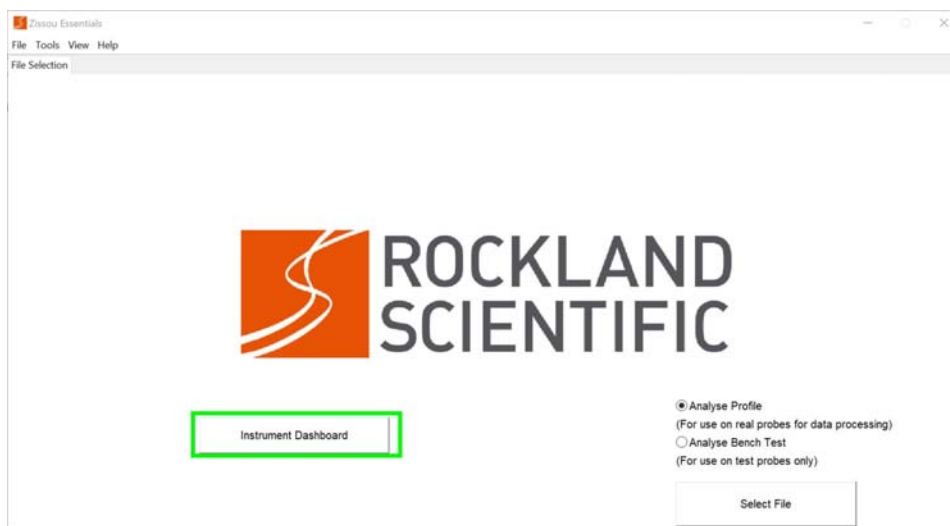

Figure 30: The “Instrument Dashboard” button (green) on the Zissou Essentials home page.
2. On the software home page, hit the “Instrument Dashboard” button (Figure 30). The option is also available under the “Tools” drop-down menu.